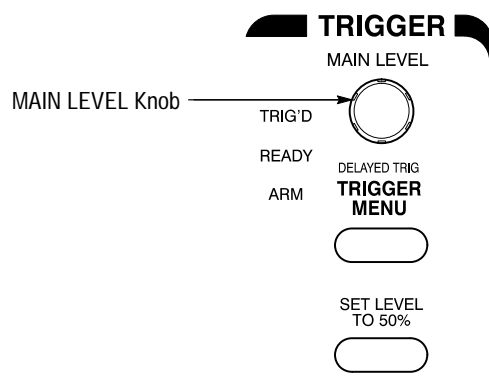

Figure 2–7: TRIGGER Controls
1. To create an unstable display, slowly turn the trigger **MAIN LEVEL** knob (see Figure 2–7) first one direction, and then the other. Observe what happens when you move the trigger level above the highest part of the waveform. Leave the trigger level in that untriggered state.
2. Press **AUTOSET** (see Figure 2–8) and observe the stable waveform display.